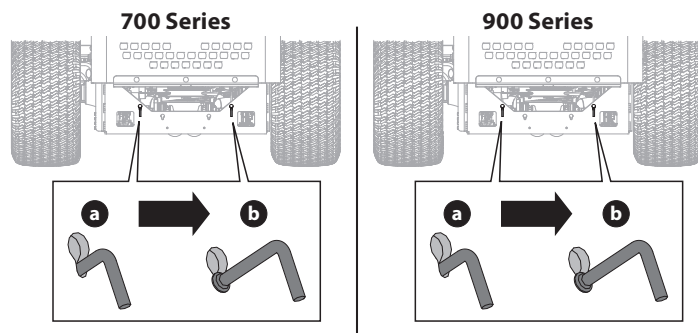

Fig. 35
1. To engage the transmission bypass rods, pull the rod (a) up into the larger opening of the key slot, then pull back until the collar on the rod passes through the frame (Fig. 35).
2. Lower the rod back into the smaller opening of the key slot, making sure the collar is secured on the outside of the frame (b). Repeat on opposite side (Fig. 35).